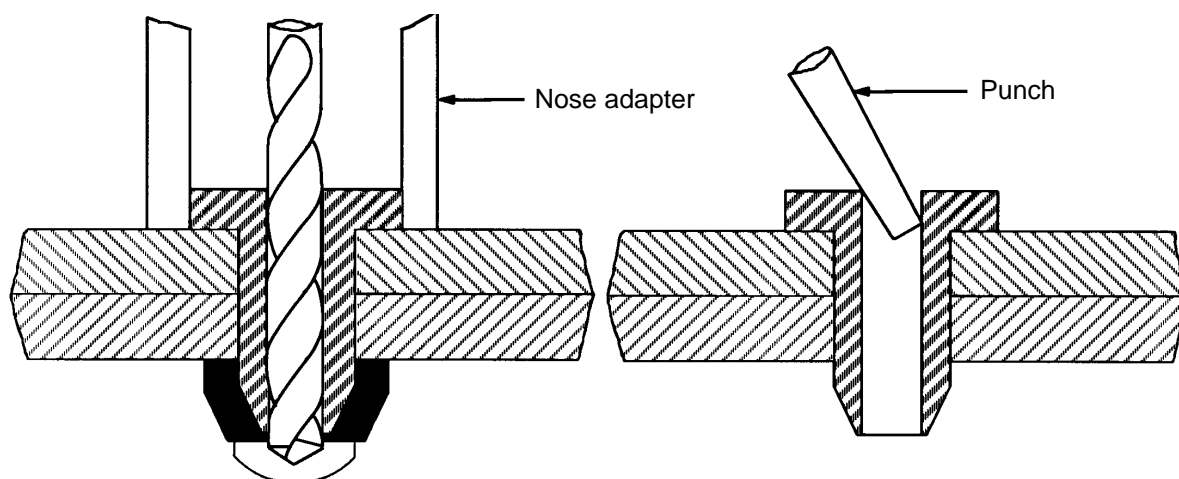

Figure 12 - Screw Drill-Out Removal of Jo-Bolt
- Step 3. Drill out the screw and pick the nut out of the hole using a suitable punch (see Figure 12).